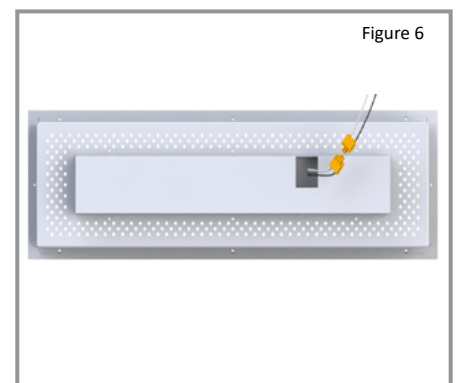

Figure 6
- Make connection to Solais R-XPD/R-XAR using the updated connector from the previous step (*Figure 6*)